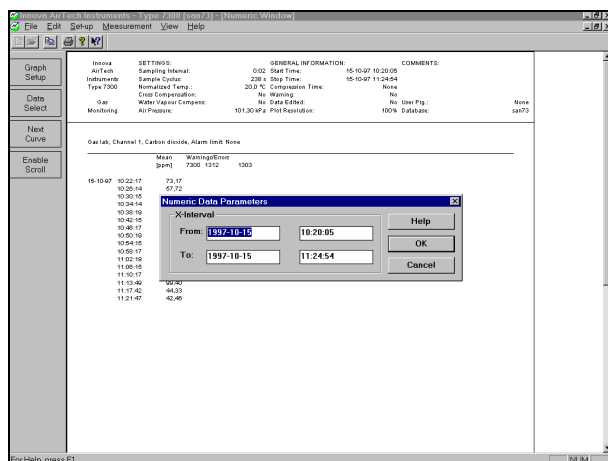

Fig.5.13 The Numeric Data Parameters dialogue
- Click on **Graph Set-up** in the panel. The Numeric Data Interval dialogue will be displayed, see Fig.5.13.